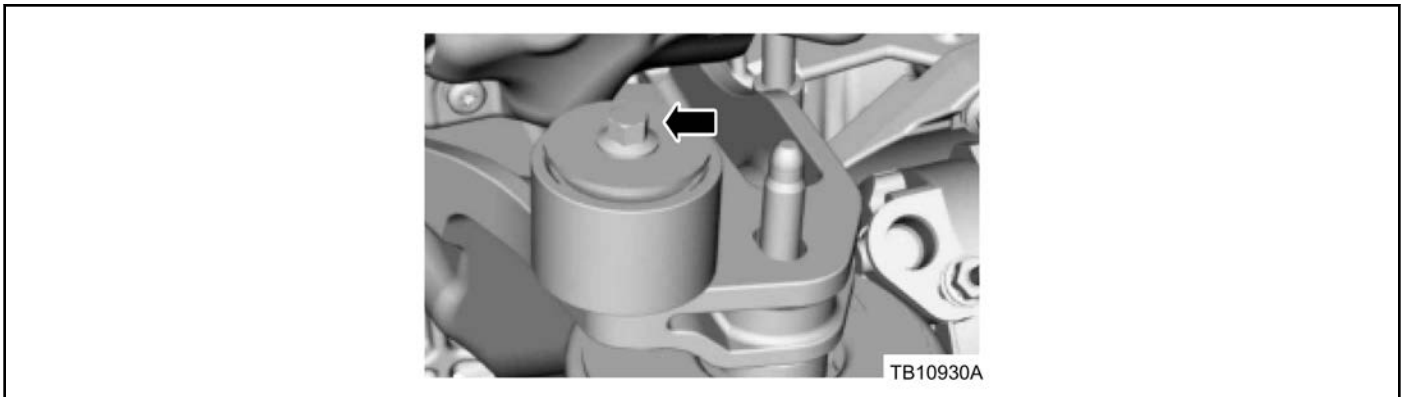

Figure 1 - Article 16-0121
3. Remove the vibration dampener from the right engine mount. (Figure 1)